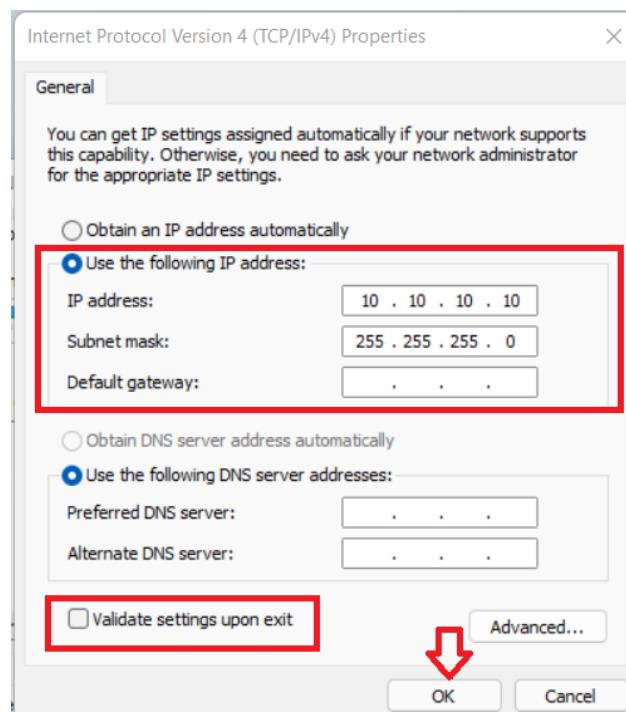

Figure 8: Network settings that need to be set prior to running the machine
- 5- On the pop up Internet Protocol Version 4( (TCP/IPv4) properties window select the “Use the following IP address” option and fill in the IP address of the CNC Controller and set the Subnet mask as shown. The default IP address of the is 10.10.10.10 (this can be changed, refer to the CNC Controller manual for more details) and set the subnet mask to 255.255.255.0 value. Figure 8 shows the IPV4 network IP address that needs to be set.